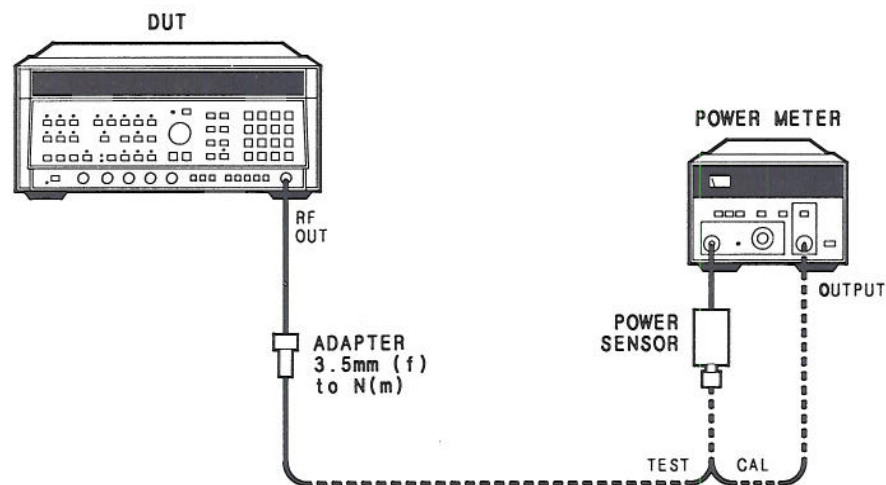

Figure 4-10. Power Sweep Test Setup
1. Connect equipment as shown in Figure 4-10. Connect the HP 8485A power sensor to the power meter. Allow a one hour warm up time. Set the power meter's calibration switch to include 1 GHz, then zero and calibrate the power meter before connecting the power sensor to the DUT.